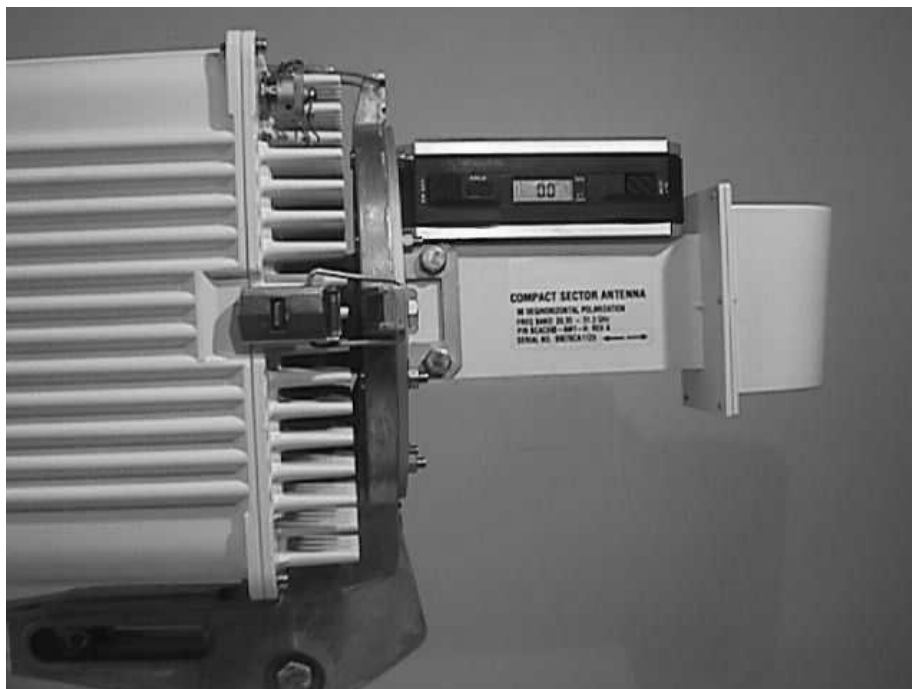

Figure 18 – Checking antenna positioning
1. Using a control system (graduated level or inclinometer) positioned on the straight part of the antenna (Figure 18), ensure that it is perfectly horizontal (tilt 0°).